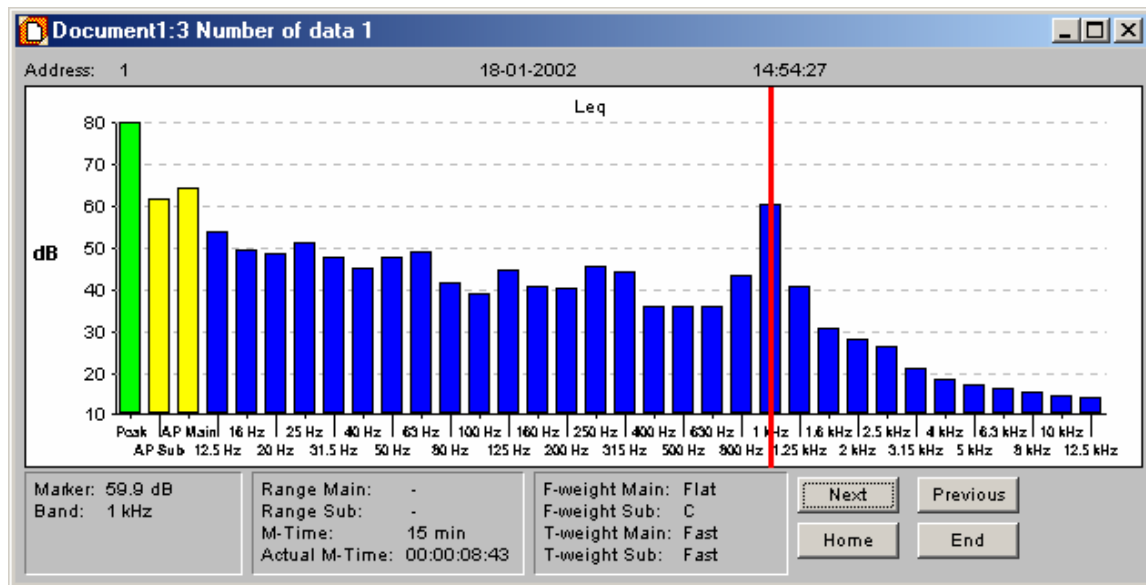

Fig. 5: Bar Chart Display of 1/3 Octave Data
13. To see downloaded data in graphical format, click on **'View'** in the toolbar and click on **'Bar graph view'**. A colour barchart representation of the data is shown and by use of the left **'◀'** or right **'▶'** cursor keys on the keyboard, an individual centre frequency can be identified. (See Fig. 5)